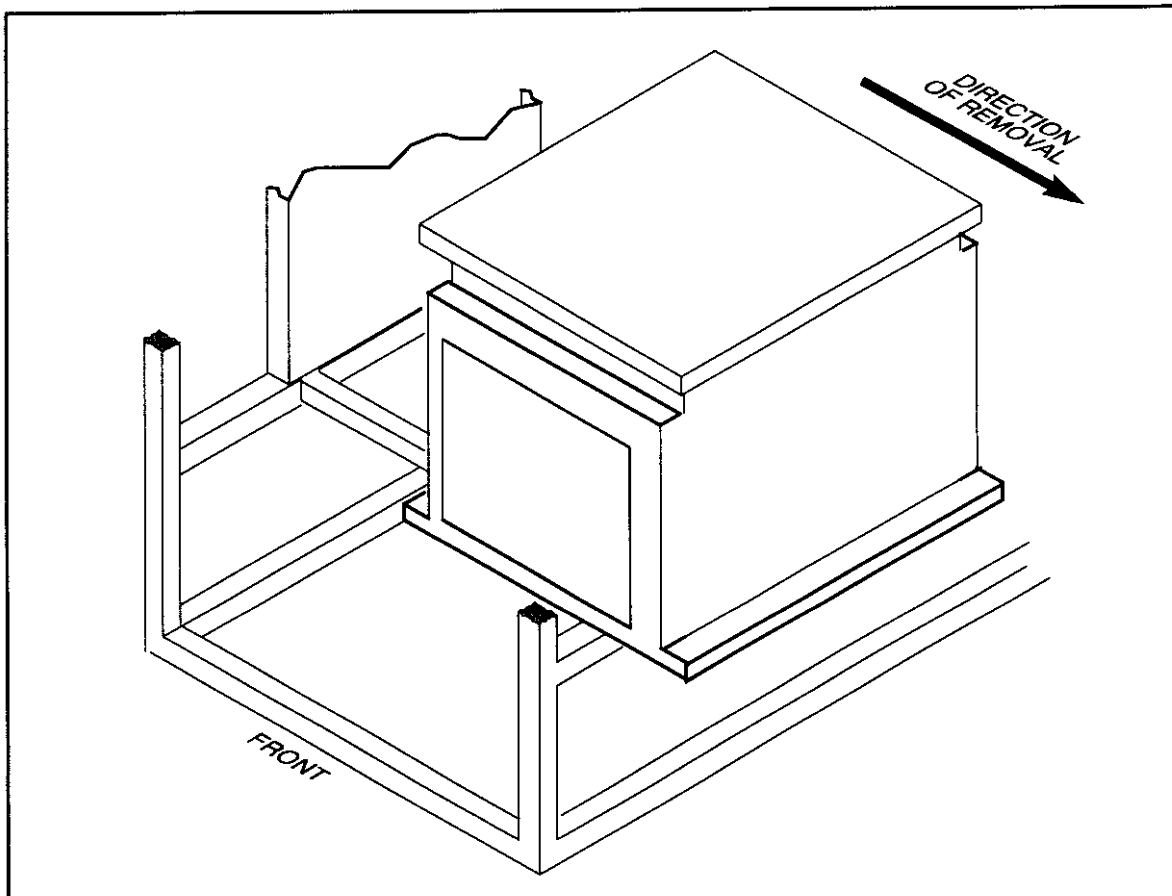

Figure 47. Modulator Removal.
- m. Remove the mounting screws at the base of the modulator and remove the modulator from the right side of the transmitter. Refer to Figure 47.